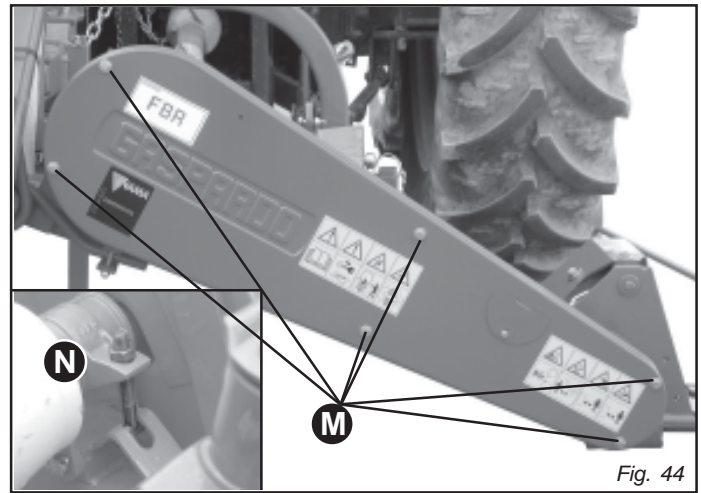

Fig. 44
- Unscrew the screws (M, Fig. 44) and remove the protective casing.
- Loosen the belt tensioner completely (N, Fig. 44).
- Put the protective casing back in position and fix it in place with the screws (M, Fig. 44).